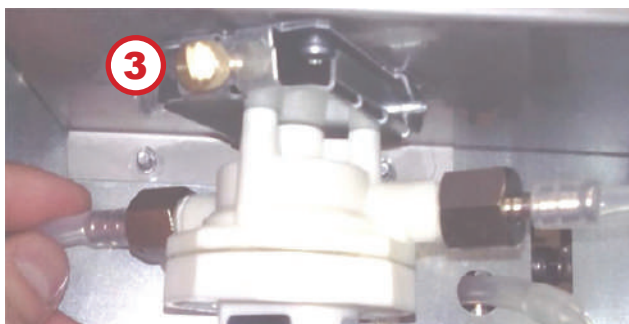

Fig.11.6
4. Remove the screw (3) (see fig. 11.6).